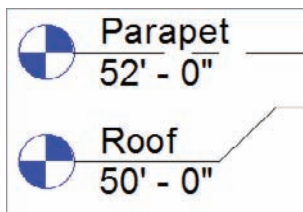

FIGURE 3.18 Controlling the visibility of the levels at the other end
3. Turn the Roof level on as well. Use the blue adjustment icons (elbow icons) to move the level out of the way (see Figure 3.18).